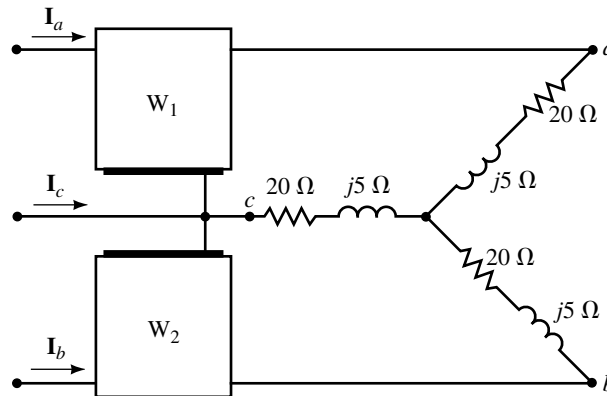

FIGURE 23-54
51. Consider the circuit of Figure 23-54.